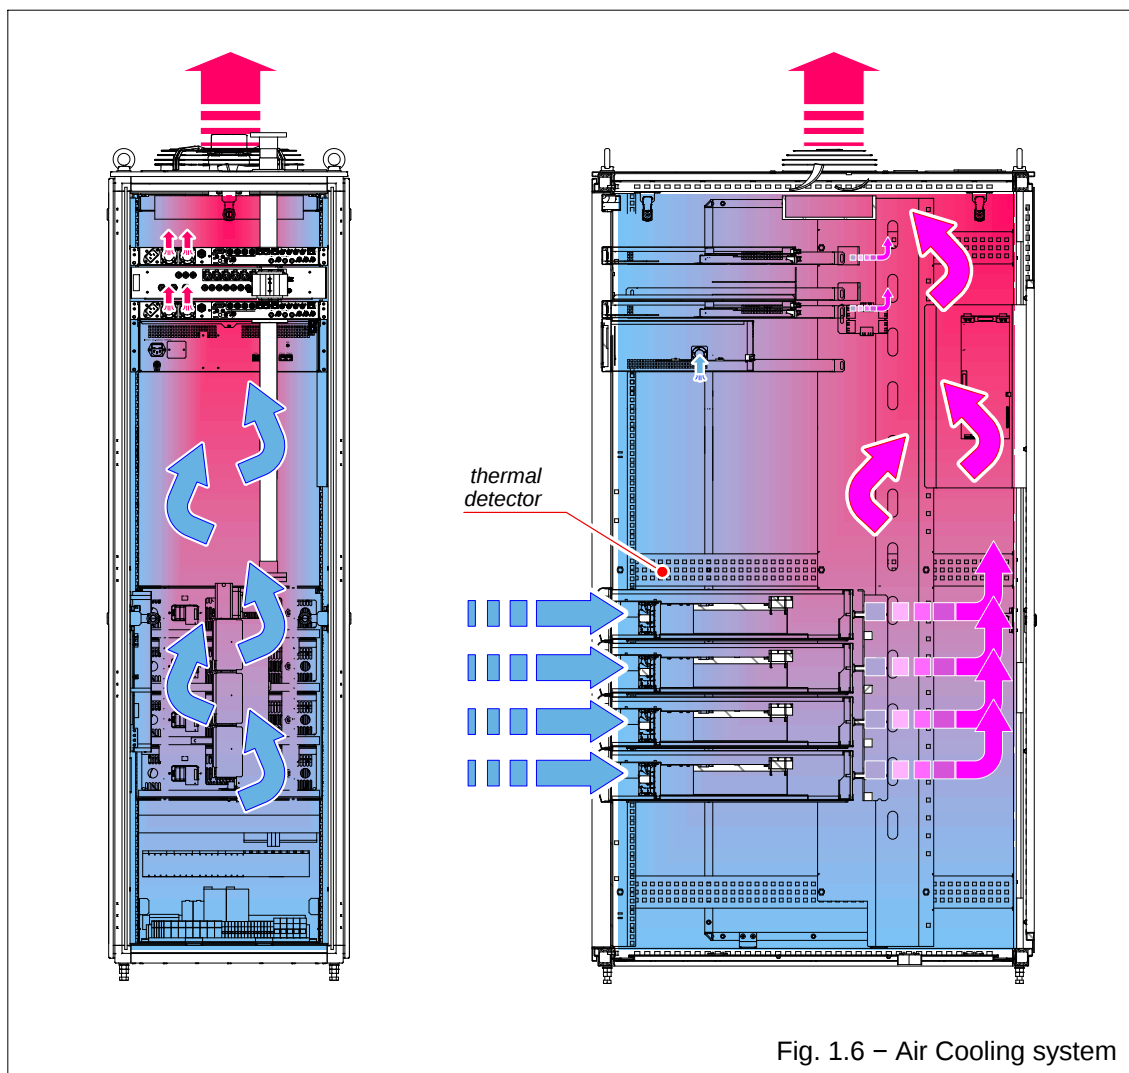

Fig. 1.6 – Air Cooling system
- Fig. 1.6 transmitter air cooling system.